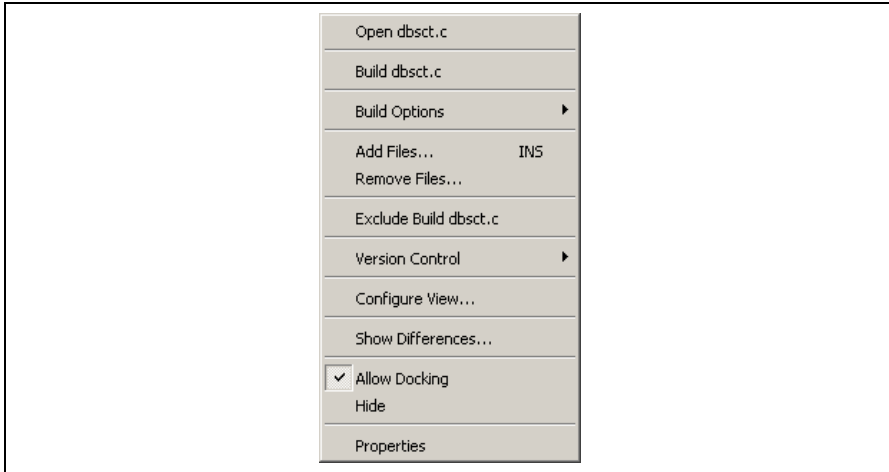
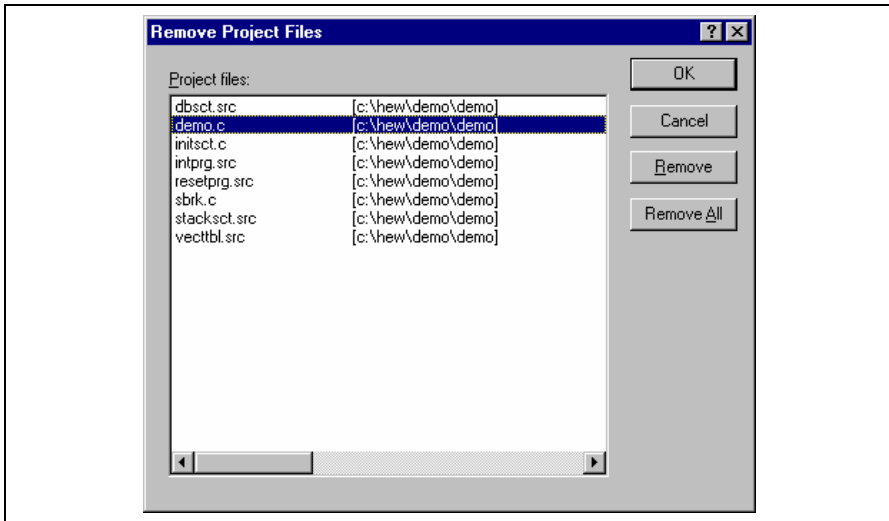

Figure 2.5: Projects Tab Pop-up Menu
Figure 2.6: Remove Project Files Dialog
1. Select [**Project->Remove Files...**], or click the right mouse button on a project icon in the “Projects” tab of the “Workspace” window and select [**Remove Files...**] from the pop-up menu (see figure 2.5). The “Remove Project Files” dialog will be displayed (figure 2.6).
2. Select [**Exclude Build file**], where <file> is the selected file, from the pop-up menu (figure 2.5). Then a red cross will be put on the file’s icon, and the file will be excluded from build.